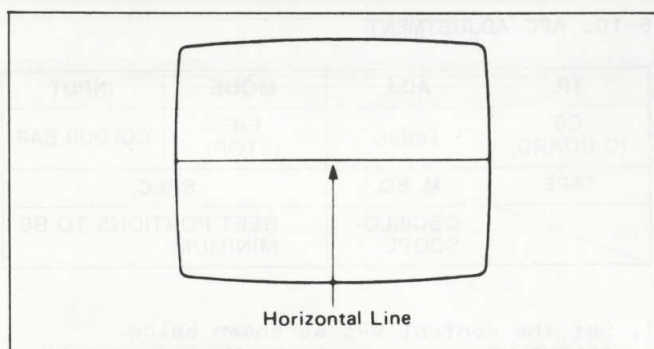

Figure E11
8. Slowly turn Screen control clockwise until a dim green horizontal line appears on the picture tube screen as shown in Figure E11.